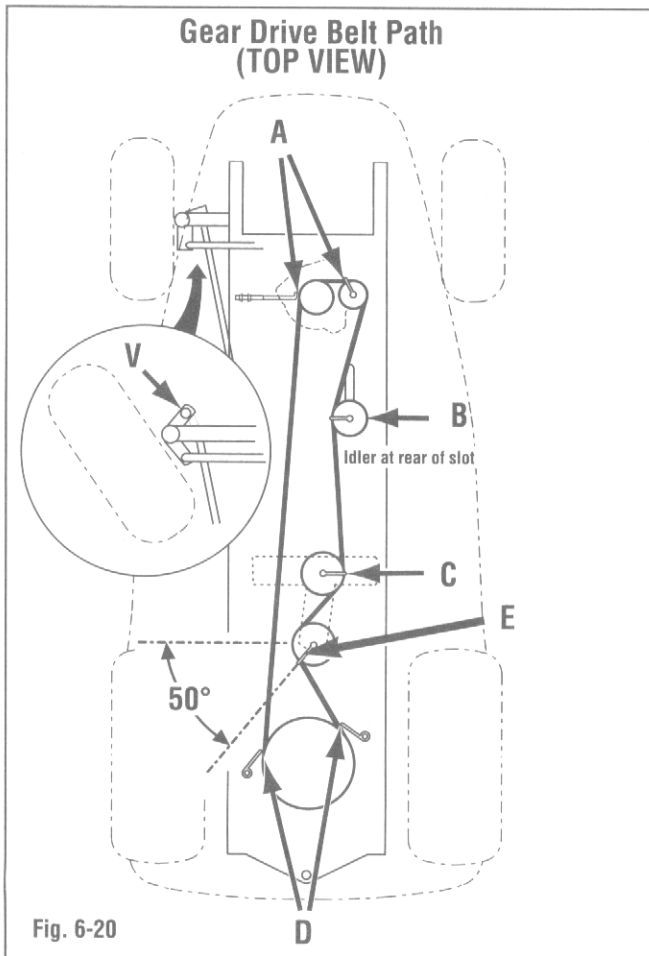

Fig. 6-20
- Route belt around sheaves as shown in Fig. 6-20.
- Adjust belt guides (A, Fig. 6-20) 1/16" to 1/8" away from belt when the belt is in the "engaged" or tensioned position. Secure guides (A).
- Adjust belt guide (B) so it is pointing straight to the left of the unit as shown in Fig. 6-20. Secure guide (B). **NOTE:** *Adjust Idler all the way to the rear in slot.*
- Adjust belt guide (C) so it is pointing straight to the right of the unit as shown in Fig. 6-20. Secure guide (C).
- Adjust belt guides (D) 1/16" to 1/8" away from belt. Secure guides (D).
- Adjust belt guide (E) so it is pointing 50° back from straight left, as shown in Fig. 6-20. Secure guide (E).
- Adjust belt guide (Z) so it is pointing as shown in Fig. 6-20, 1/16" to 1/8" away from belt. Secure guide (Z).